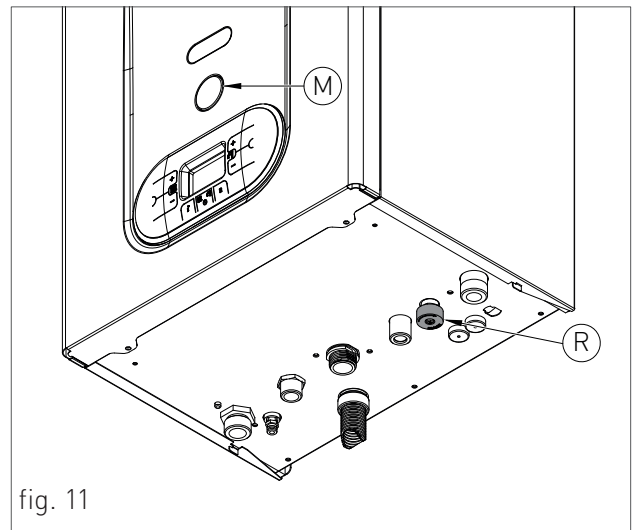
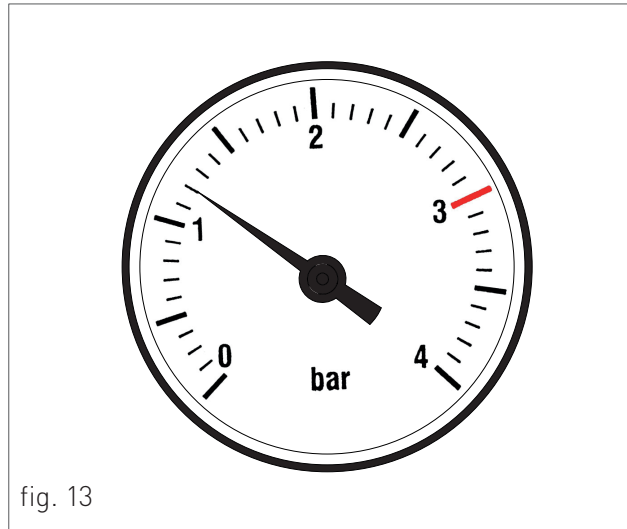

fig. 11
fig. 13
4. Open the feeding tap "R" (fig. 11);
6. Use pressure gauge "M" (fig. 11) to make sure that the system pressure reaches 1.2 bar (fig. 13);
7. After performing this operation, make sure that the loading tap "R" (fig. 11) is properly closed.
10. If after performing these operations you observe a decrease of the water pressure inside the system, open once again the loading tap "R" until the pressure gauge indicates the value of 1.2 bar (fig. 13)